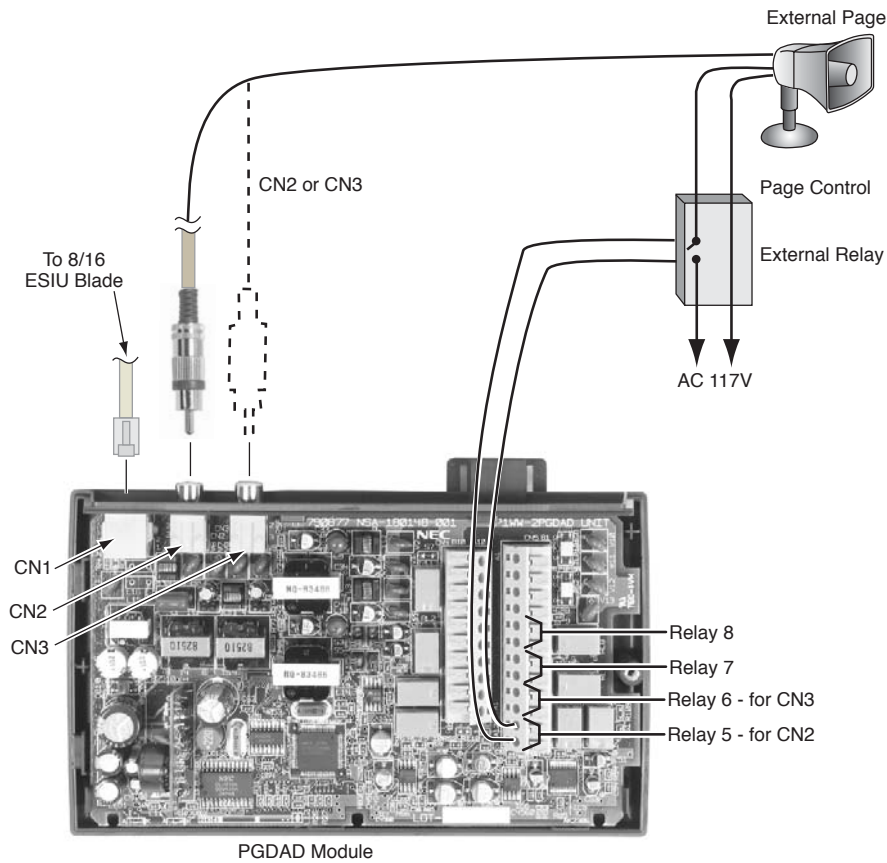

Figure 4-15: 2PGDAD CABLE CONNECTION
4.6.1 External Page (Figure 4-15)
4.7.2 Door Box /External Page Relay Contacts (Figure 4-15)